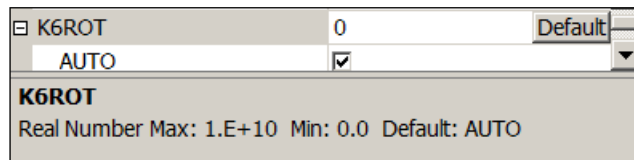

Figure 37 – Example of an Option Containing an Auto Check-box
**Note:** Certain options such as **K6ROT** will have a check-box for the **AUTO** setting, as shown below in Figure 37: